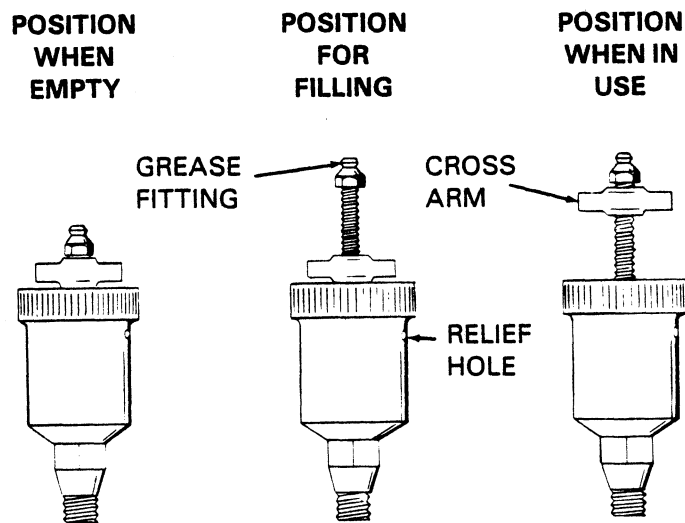

Figure 5. Automatic Lubricating Grease Cup
Before removing the seal assembly, turn the cross arm on the seal grease cup (6) clockwise until it rests against the cover (see figure 5). This will prevent the grease in the cup from escaping after the seal is removed.
Before starting the pump, fill the seal grease cup through the grease fitting with a good grade of No. 2 pressure gun grease until grease escapes from the relief hole. Turn the grease cup arm counterclockwise until it is at the top of the stem; this will release the spring to apply grease to the seal (see figure 5).